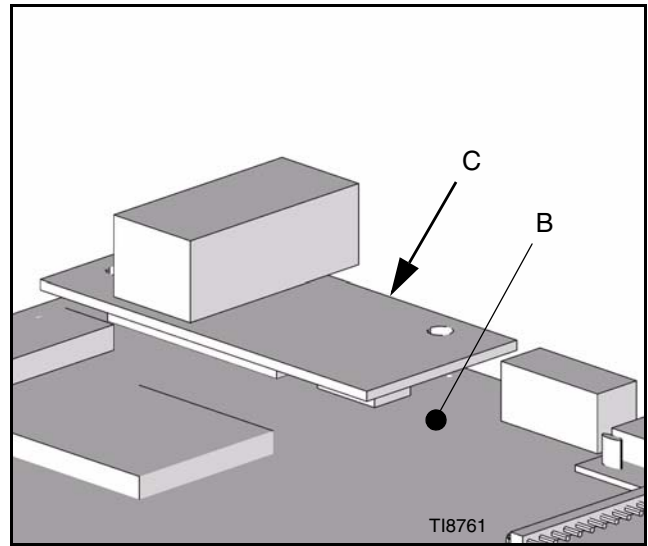
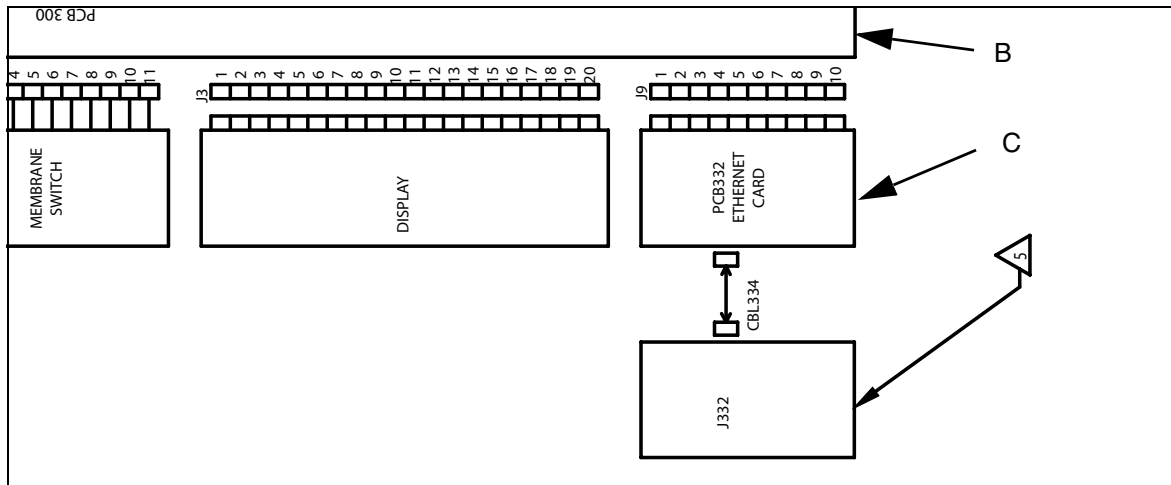

FIG. 39
FIG. 40
5. Plug the Ethernet Assembly 249183 (C) into J9 making sure the RJ45 connector is oriented down. See FIG. 39 and FIG. 40.
6. Secure the Ethernet Assembly 249183 (C) to the EasyKey Display 249480 (B) using the hardware provided.